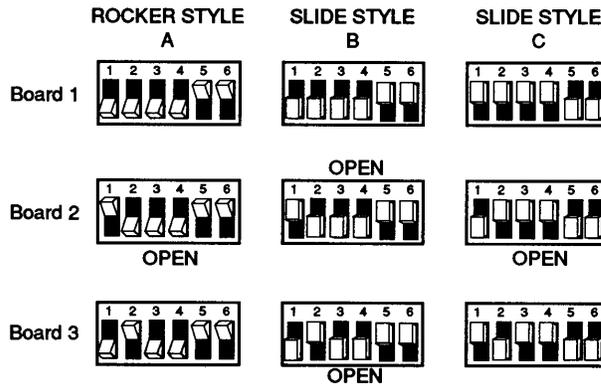

Figure A-22. Settings for SW12.1
- If the board has unmarked slide switches, the setting of the second switch (SW12.1) should correspond to one of the settings shown in Figure A-22. Use the configuration letter at the top of the column in which the match is found.
The second switch (SW12.1) sets the board address. Figure A-22 shows the correct settings for up to three boards in each of the three configurations.